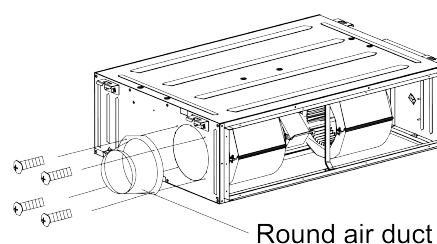

Fig.4.4.9
- (2) Install the round flange so that the fresh air duct can be connected as Fig.4.4.9.
- (3) Sealing and heat preservation should be done for both the air pipe and round flange pipe.
- (4) Fresh air should be treated via the air filter.